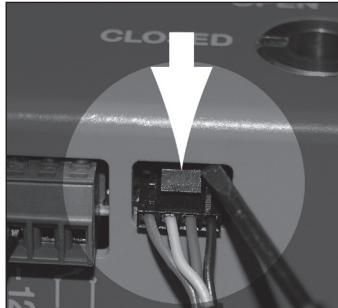

Figure 5
**Note:** It is not necessary to remove the cover of the Control Unit to install the interconnecting cables. To remove an interlocking cable, use the supplied Pocket Screwdriver to depress the tab on the cable while pulling cable from its socket. **Figure 5**